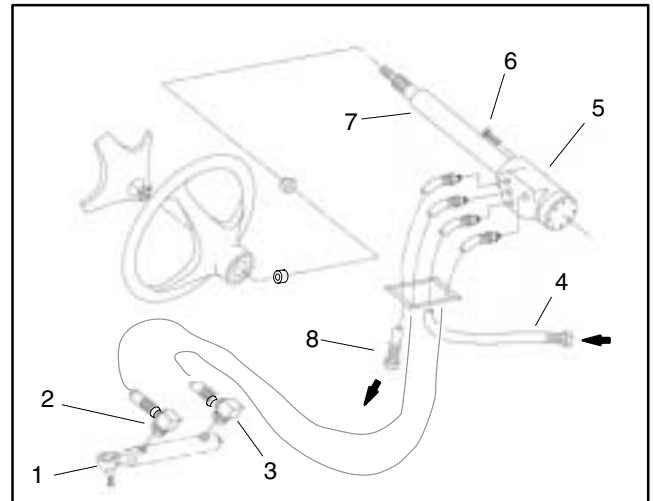

Figure 19
Removal (Fig. 19)
Installation (Fig. 19)
1. Position steering control valve to frame. Slide steering column to control valve. Secure steering column and control valve to frame with four (4) cap screws.
3. Connect hydraulic hoses to steering control valve (Fig. 19). Tighten hose connections.